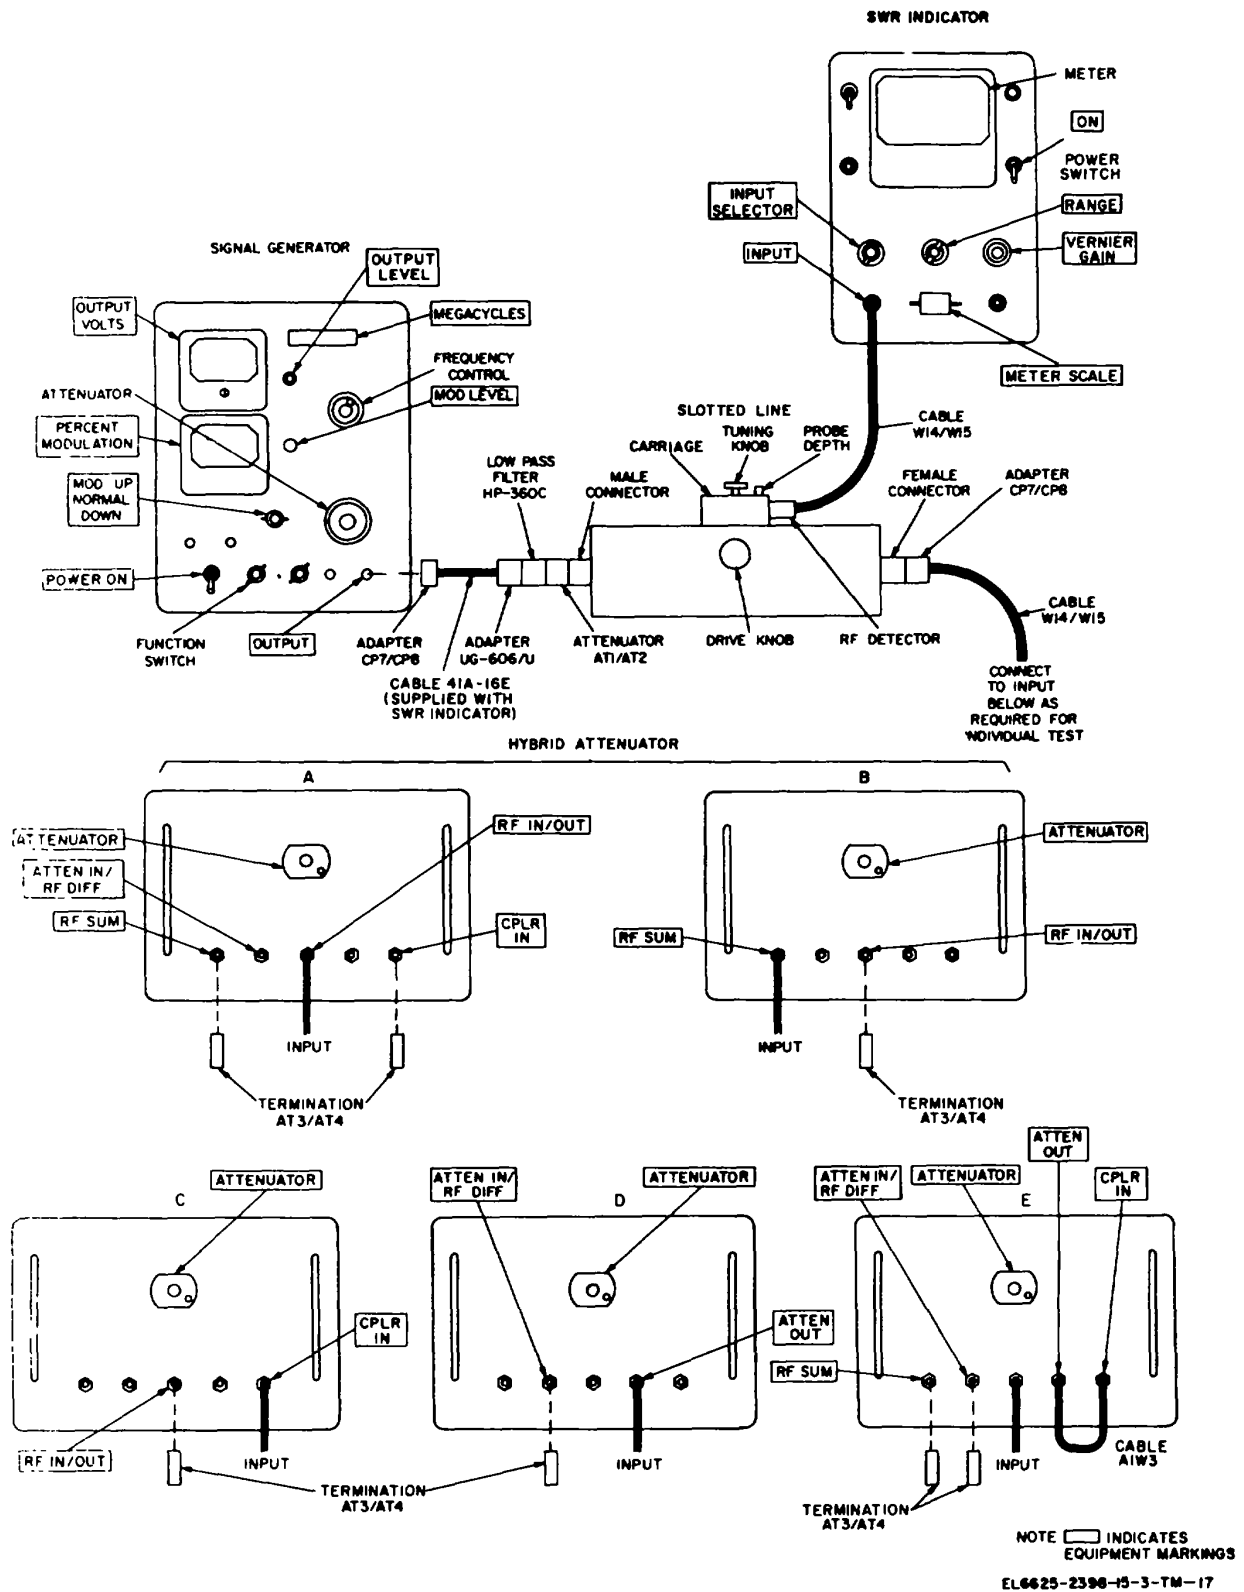

Figure 6-5. Hybrid attenuator VSWR, test connections.
**6-11. Hybrid Attenuator VSWR Measurements.** (fig 6-5)
(1) On the signal generator, set the MEGACYCLES dial to 1030 with the frequency control knob. Set the function switch to 1000-the MOD. UP-NORMAL-DOWN to NORMAL, adjust the MOD. LEVEL control for a reading of 50 on the PERCENT MODULATION meter, and set the attenuator to 0dB (outer scale). Turn on the signal generator and allow a minimum of 20 minutes warm-up period before proceeding.
(2) With the METER SCALE set to NORMAL, and INPUT SELECTOR set to XTAL-200K n, turn on the SWR indicator and allow a minimum of 10 minutes warm-up period before proceeding.
(3) Terminate and connect the hybrid attenuator as directed in A of figure 6-5 (RF IN/OUT jack VSWR).
(4) Insert the crystal in the rf detector of the slotted line and turn the probe depth control fully clockwise. Adjust the slotted line tuning knob for a maximum indication on the meter of the SWR indicator.
(5) Adjust the signal generator OUTPUT LEVEL control for a centered reading on the meter of the SWR indicator.
(6) Move the carriage of the slotted line, with the drive control, to obtain a peak (maximum) meter reading on the SWR indicator.
(7) Decrease the slotted line probe depth (turn control counterclockwise), while adjusting the VERNIER GAIN control and RANGE switch of the SWR indicator, to the minimum probe depth required to provide full scale deflection on the meter of the SWR indicator (consistent with a usable meter reading, free of noise and jitter).
(8) Readjust the drive control knob of the slotted line for the peak (maximum) reading on the standing wave ratio indicator meter Adjust the VERNIER GAIN control and RANGE switch of the SWR indicator for a meter reading of exactly 1 on the SWR scale.
(9) Move the carriage of the slotted line, with the drive knob, to obtain a null (minimum) reading on the meter of the SWR indicator. Read the voltage standing wave ratio on the SWR scale (top) of the SWR indicator meter. The meter must indicate less than 1.65 on the SWR scale.
(10)Terminate and connect the hybrid attenuator as directed in B of figure 6-5 (RF SUM jack VSWR)
(11)Repeat steps (4) through (9) SWR indicator meter must indicate less than 1.2 on the SWR scale
(12)Terminate and connect the hybrid attenuator as directed in C of figure 6-5 (CPLR IN jack VSWR).
- (13) Repeat steps (4) through (9). SWR indicator meter must indicate less than 1.5 on the SWR scale.
- (14) Terminate and connect the hybrid attenuator
- as directed in D of figure 6-5 (ATTEN OUT jack VSWR). Set ATTENUATOR control to 0 (zero).
- (15) Repeat steps (4) through (9). SWR
(16) Terminate and connect the hybrid attenuator as directed in E of figure 6-5 (hybrid attenuator VSWR). Set ATTENUATOR control to 0 (zero).
(17) Repeat steps (4) through (9). Standing wave ratio indicator must indicate less than 1.6 on the SWR scale.